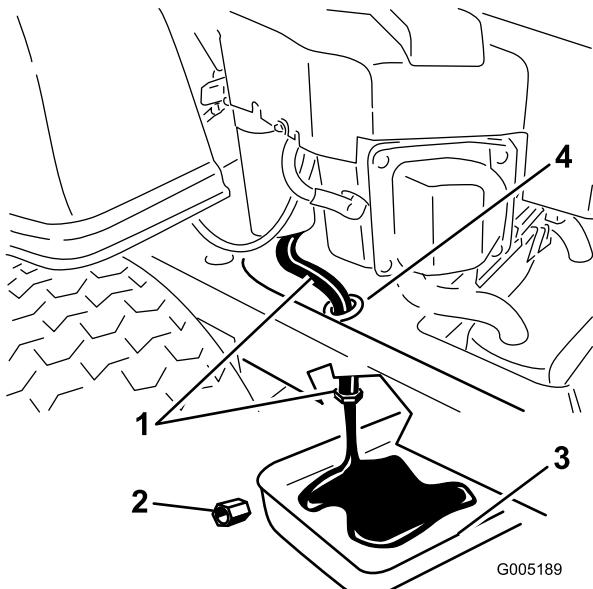

Figure 33
5. Locate the oil drain hose on the left side of the engine. The drain plug is attached to a drain hose routed through a drain hole in the machine frame (Figure 33). Clean the area around the oil drain plug cap and the oil drain hose.
6. Place a pan underneath machine directly below the oil drain hose as shown in Figure 33.
7. Using two wrenches (one to hold the oil drain hose and one to loosen the plug), remove the oil drain plug (Figure 33).
13. When oil has drained completely, install the oil drain plug. Tighten the plug to 14 N·m (125 in-lb) torque. Wipe up any excess oil (Figure 33).